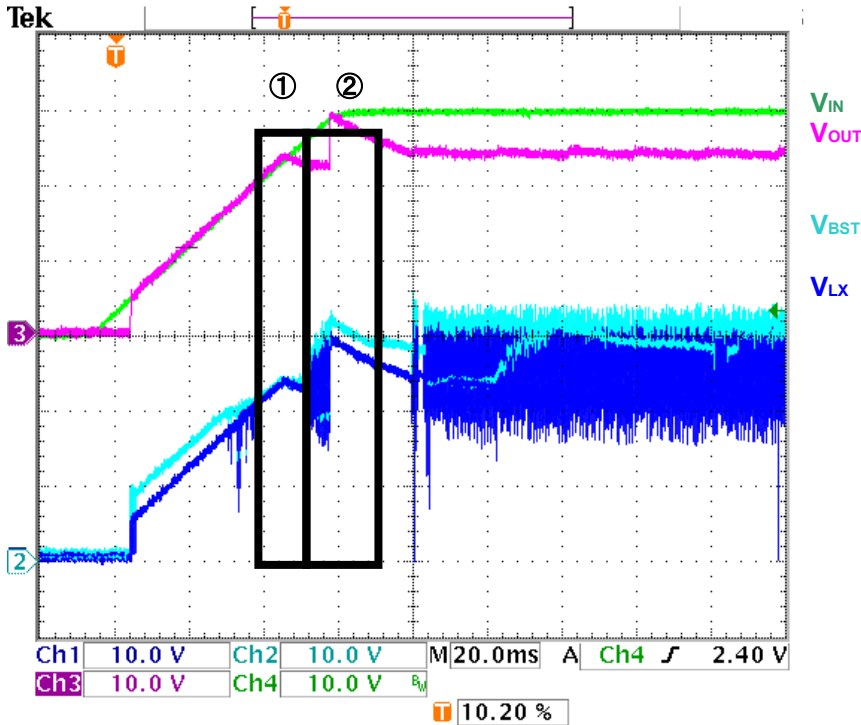
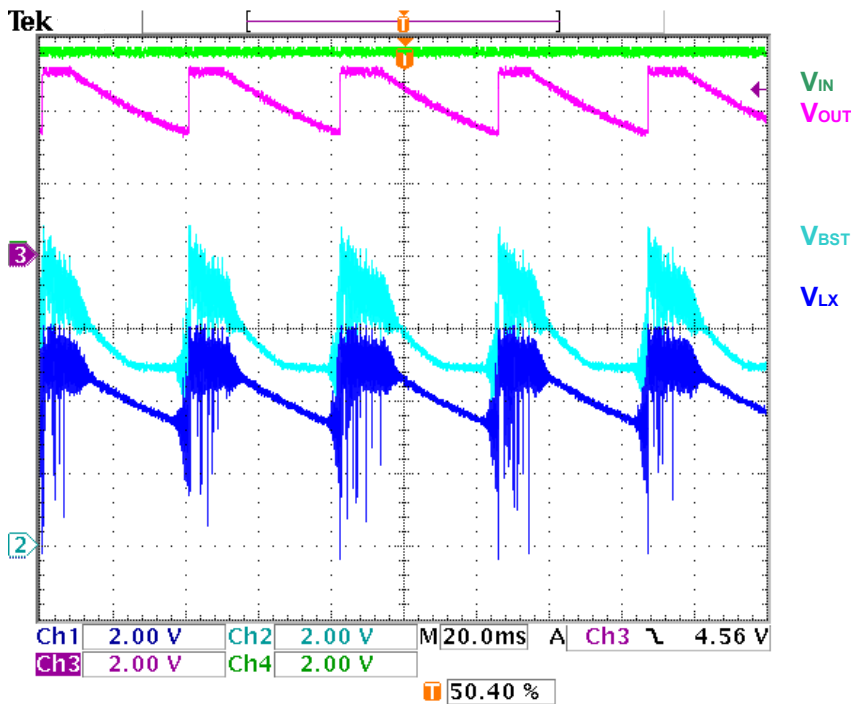

Figure 3.  $V_{IN}$  slow start-up (R1245S003A:  $V_{IN}=30V$ ,  $V_{OUT}=24V$ ,  $I_{OUT}=0mA$ )
Figure 4. The voltage difference between input and output is small (R1245S003A  $V_{IN}=5.5V$ ,  $V_{OUT}=5V$ ,  $I_{OUT}=500\mu A$ )
When the inductor current is continuous, or load current is big enough even if the discontinuous mode, the forward current of the diode will make Lx pin voltage down and  $C_{BST}$  is charged, but at light load, Lx pin voltage does not become low enough against the BST voltage supply regulator output(5V). The voltage of  $C_{BST}$  is not high enough and drive capability will be down. (Figure 3-①) Due to the lack of the drive capability,  $V_{OUT}$  cannot be maintained, and under-shoot happens to  $V_{OUT}$ , Lx pin voltage may become lower than the BST voltage supply regulator output (5V), but the error amplifier operation may be abnormal. When the charge of  $C_{BST}$  is recovered and normal switching starts,  $V_{OUT}$  becomes back to set output voltage. However, after recovering the  $V_{OUT}$ , to recover the error amplifier's operation, some response time is necessary, during this response time,  $V_{OUT}$  may be over-shoot. (Figure 3-②) As a result, Lx pin voltage cannot be low enough against the BST voltage supply regulator output voltage (5V), under-shoot and over-shoot may be repeated. (Figure 4)
Abnormal waveforms are shown in the next figures. Figure 3:  $V_{IN}$  voltage start-up is slower than the soft-start time Figure 4: The voltage difference between input and output is small and load current is small